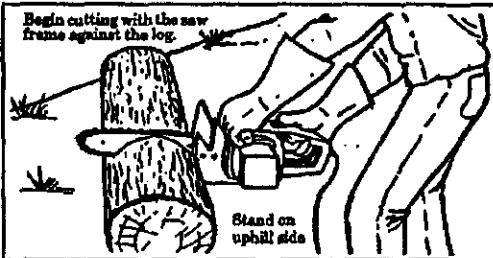

Figure 17
- Begin cutting with the saw frame against the log. Figure 17.
- Plan to stand on the up-hill side when cutting on a slope. Figures 17 & 18.